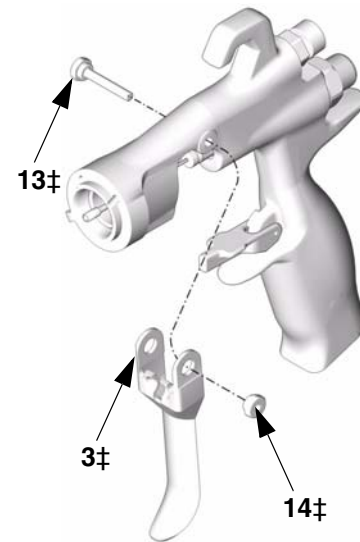

FIG. 38
2. Remove the trigger pivot pin nut (14†), pivot pin (13†), and trigger (3†) using the gun tool (30) and nut driver (29). See FIG. 38.